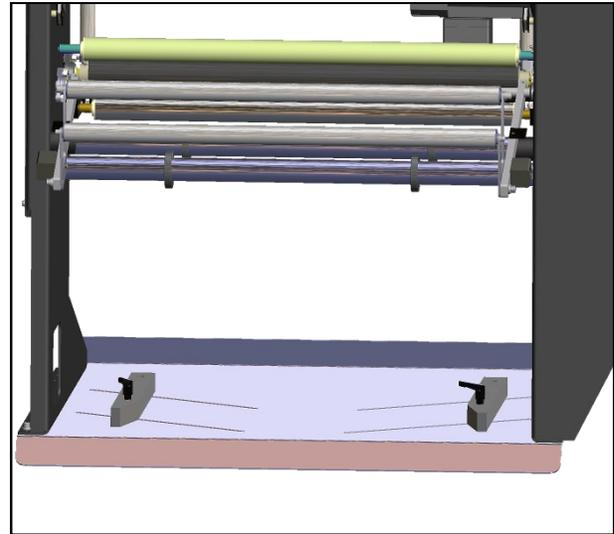

Figure 2-6C. Box Guides.
3. Loosen the Box Guides and open the guides to allow room for box of bags. **Figure 2-6C.**